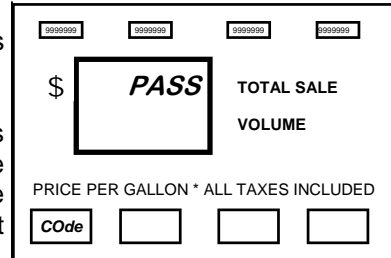

Figure 3.1
1. Press the 3 button and then the **MODE** button on the Manager's keypad. The display shown in Figure 3.1 appears.